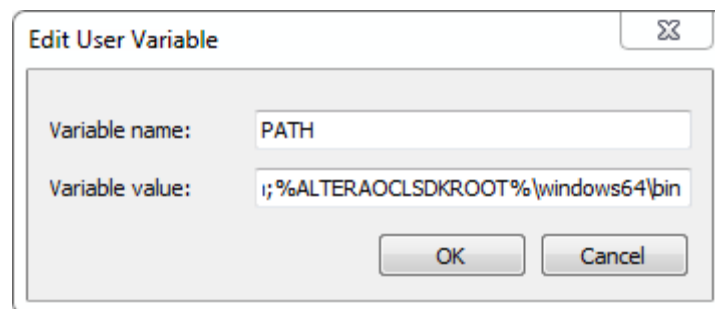

Figure 2-6 Edit PATH environment variable
5. In the Edit dialog, Append "%AOCL_BOARD_PACKAGE_ROOT%\windows64\bin; %ALTERAOCLSDKROOT%\bin; %ALTERAOCLSDKROOT%\windows64\bin; C:\intelFPGA_pro\16.1\qsys\bin" into the Variable value edit box. Note, each different directory should be separated with a semicolon as shown in Figure 2-6.